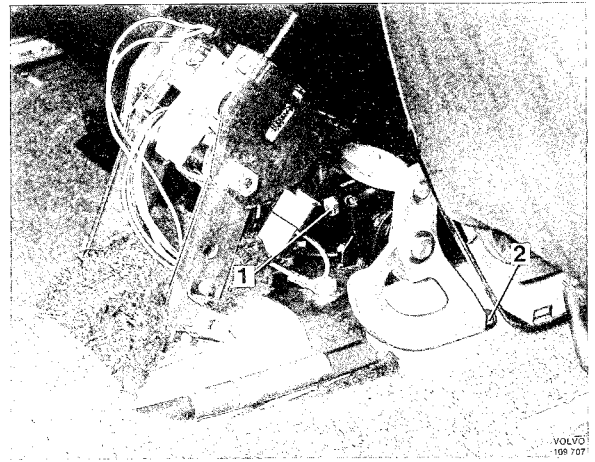

Fig. 5-87. Wire attachment
2. Slacken the wire by screwing out the adjustment screw (1, Fig. 5-87). Remove nut (2) while retaining the cable with a small screwdriver at the end.